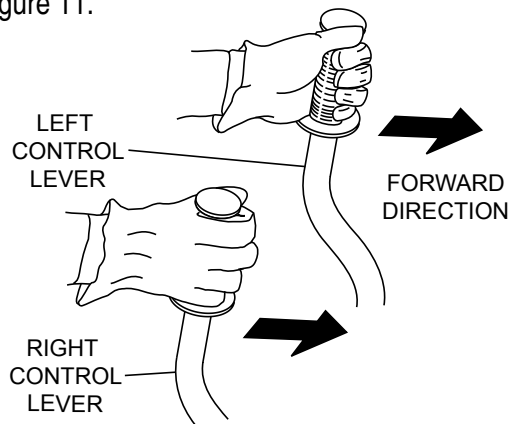

Figure 11. Left and Right Control Levers
1. Push both the left and right control levers forward. See Figure 11.